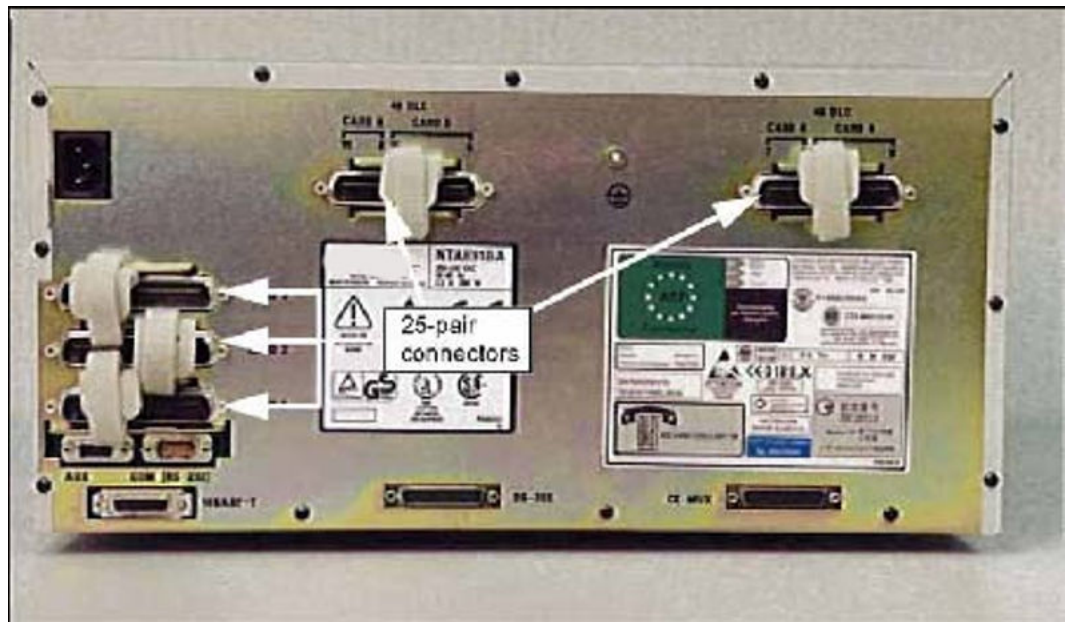

Figure 36: Chassis
2. In the chassis, connect to 15-pin DSUB connector on the back panel formerly used for the 10Base-T AUI connection. Figure 36: Chassis on page 175 shows the 10Base-T AUI connection of the chassis.